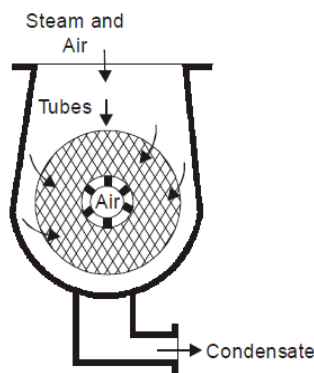

Fig. 1.11
- (ii) Central flow condenser. Fig. 1.11